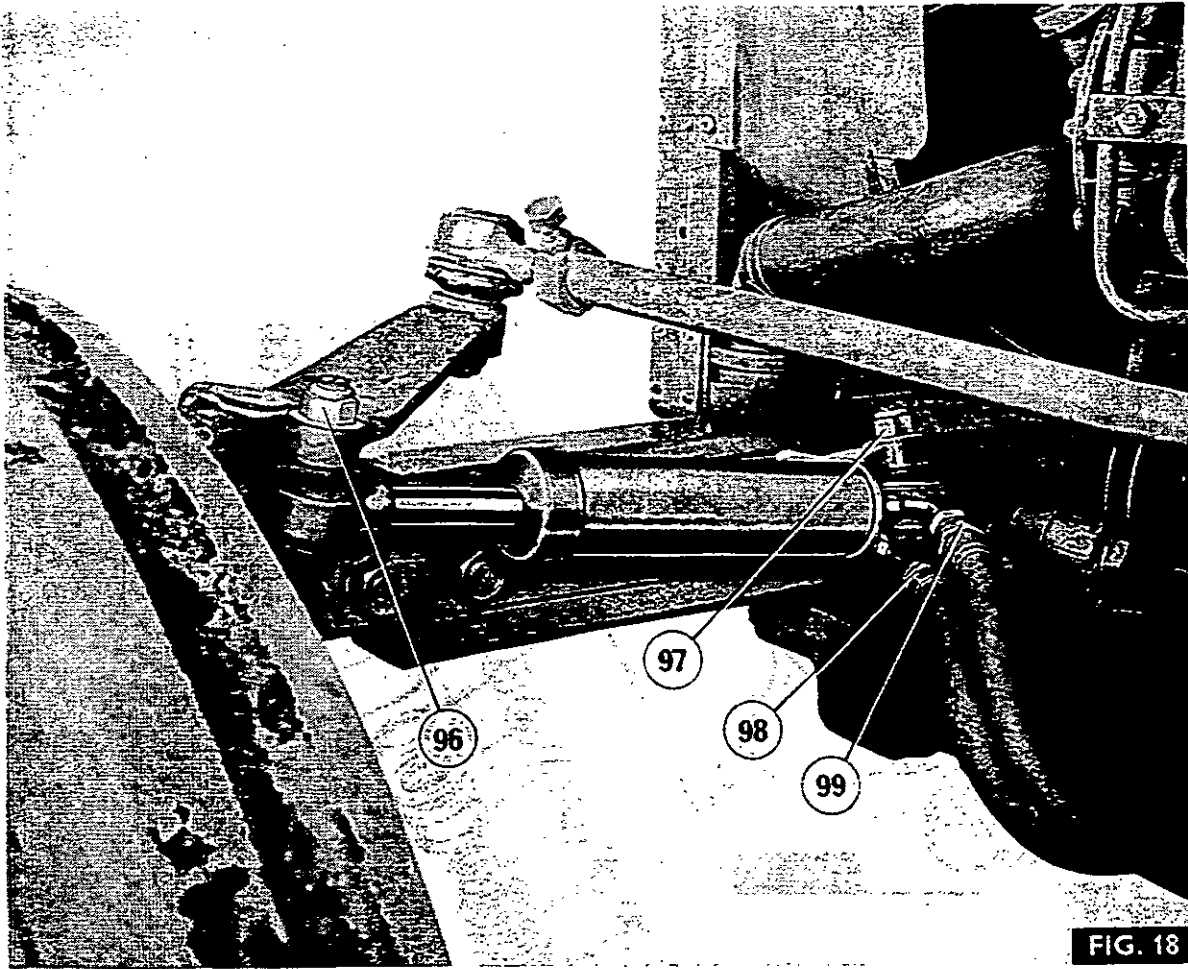

FIG. 18
1. Fig. 18. Disconnect the two hoses (98 and 99) from the ram assembly.
2. Remove the nut (96) securing the ram piston to the spindle arm and the other nut (97) securing the ram cylinder to the bracket.